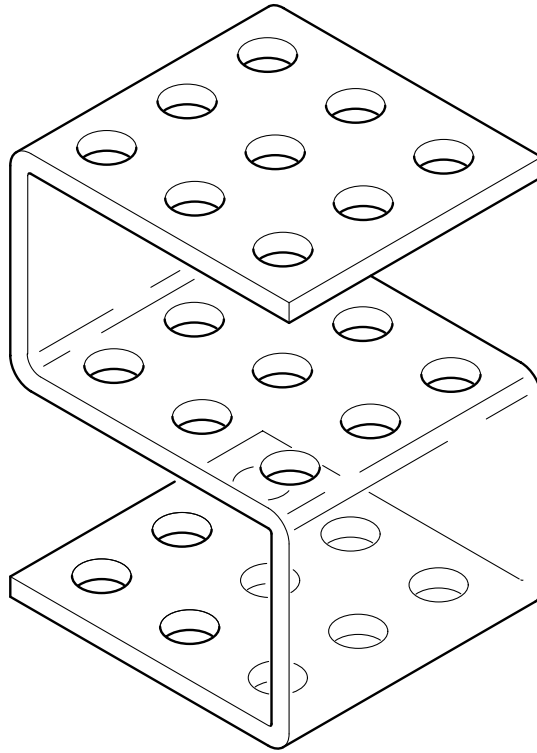

Fig. 1
- 1 Fig. 1 shows a clear acrylic board for playing three-dimensional noughts and crosses.